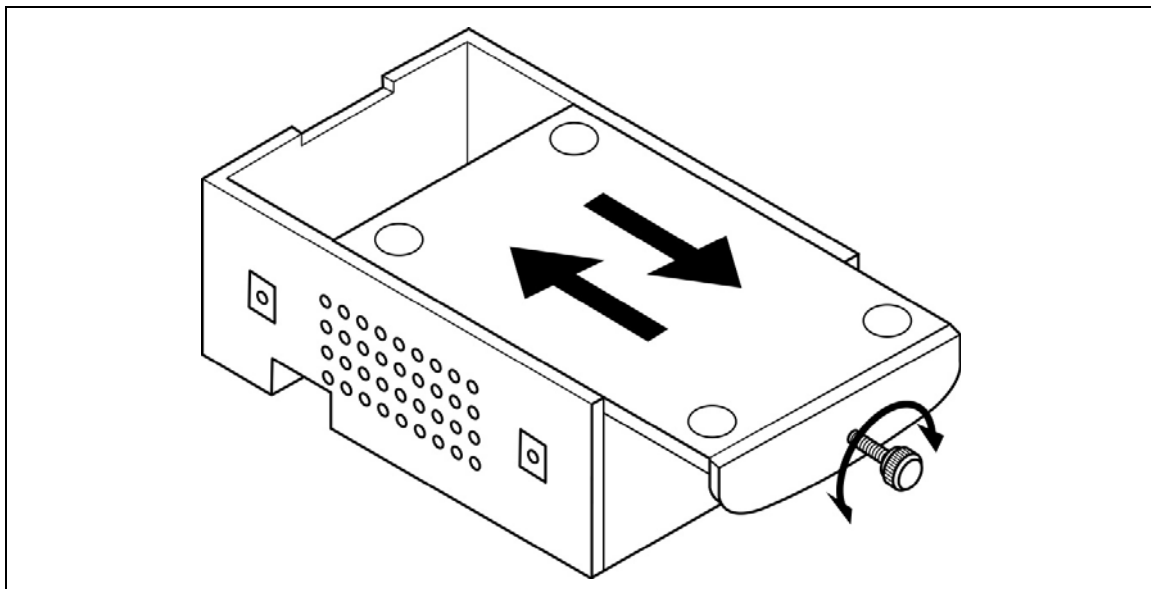

Figure 3: Opening the bottom of the probe
- 1 Turn the EMU3 probe upside-down, unscrew the retaining screw and slide the bottom out as shown in Figure 3.